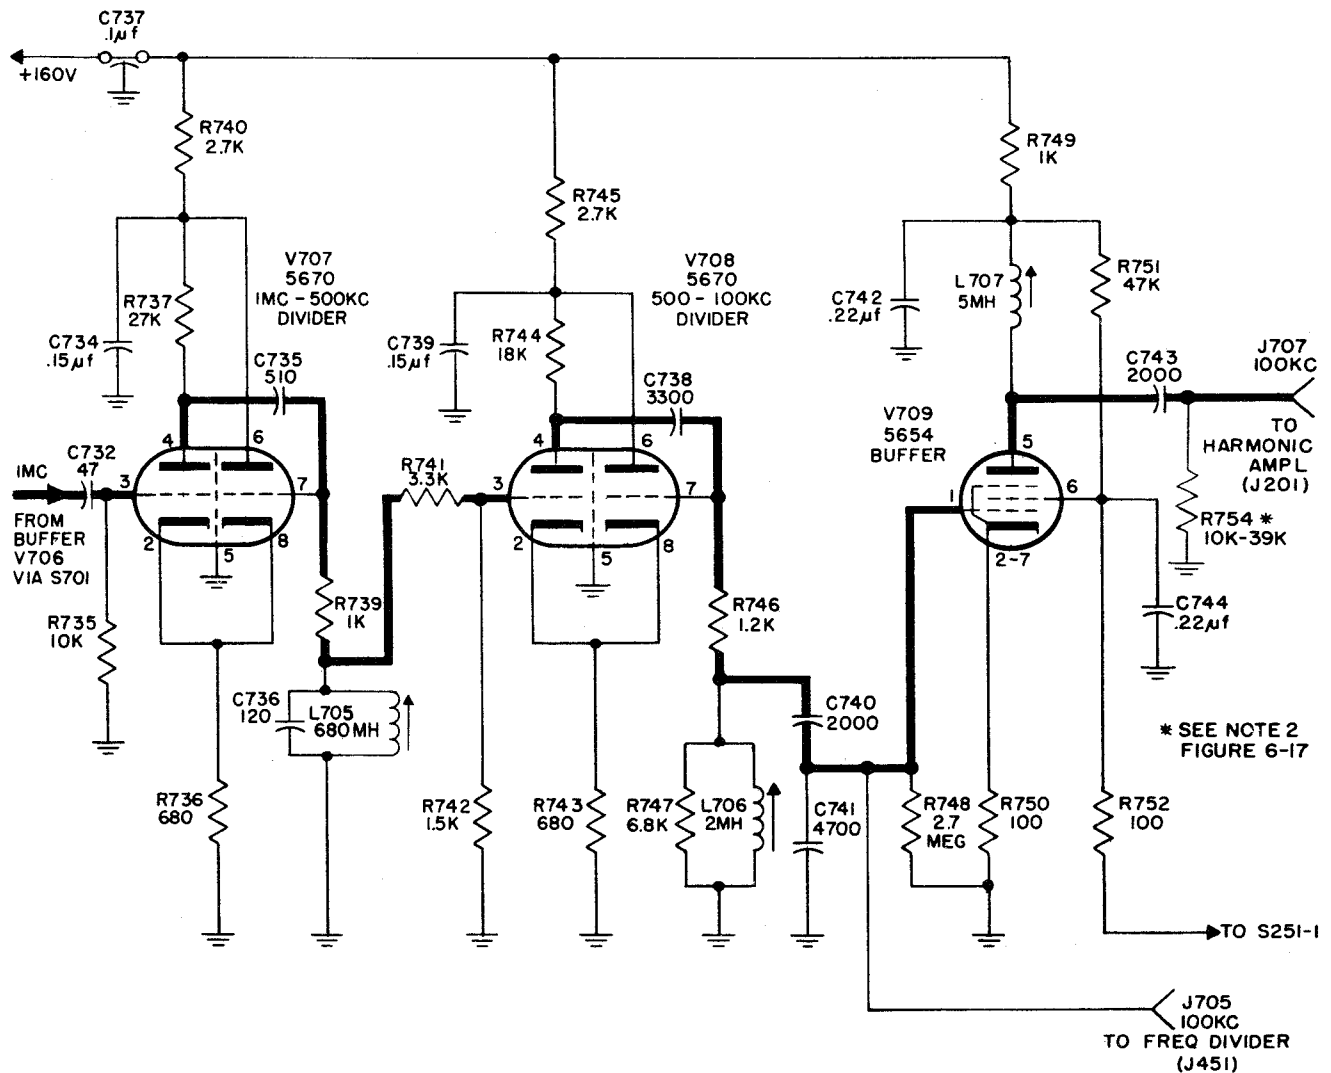

Figure 4-41. Frequency Dividers V707 and V708 and Buffer V709, Simplified Schematic Diagram
c. FREQUENCY DIVIDERS V707 AND V708, BUFFER V709. (See figure 4-41.)—The frequency dividers derive a 100 kc signal from the 1 mc input from the crystal oscillator-amplifier circuit. V707 makes the first division to 500 kc, and V708 the second division to 100 kc. V707 is a locked-oscillator with a tuned circuit, L705 and C736, at its output grid (pin 7) tuned to 500 kc. V708 has a similar circuit, L706, tuned by capacitors C740 and C741 to 100 kc. These capacitors serve also as a signal divider supplying buffer amplifier V709. The buffer amplifies the 100 kc signal and applies it to the harmonic amplifier section by way of output connector J707. It also isolates the frequency divider section from the harmonic amplifier. L707 in the plate circuit of V709 is tuned to 100 kc. Output connector J705 provides a 100 kc signal for the frequency divider section and J707 a 100 kc signal for the harmonic amplifier input.